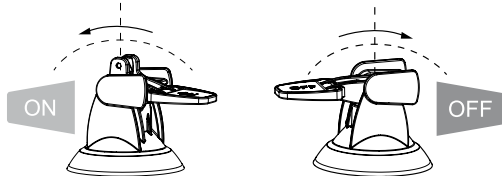

Fig. 6
- Press the bleed button on the top of the DOSATRON (**Fig. 6**).